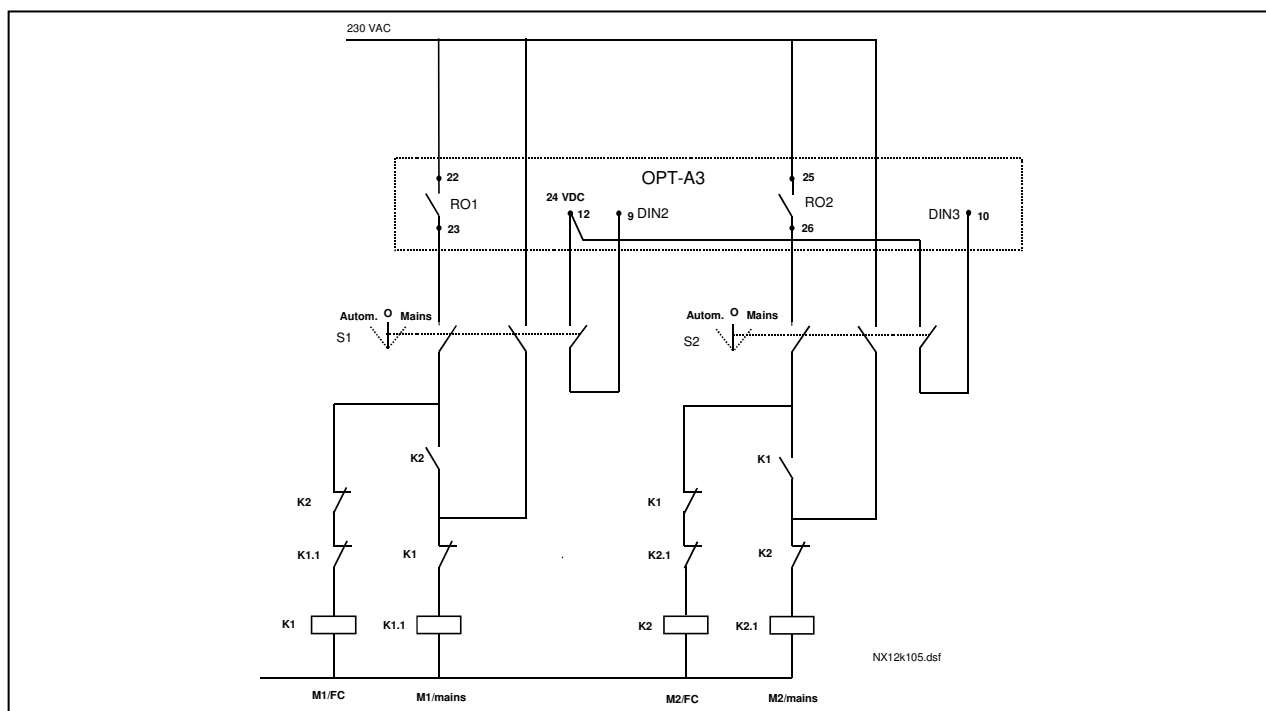
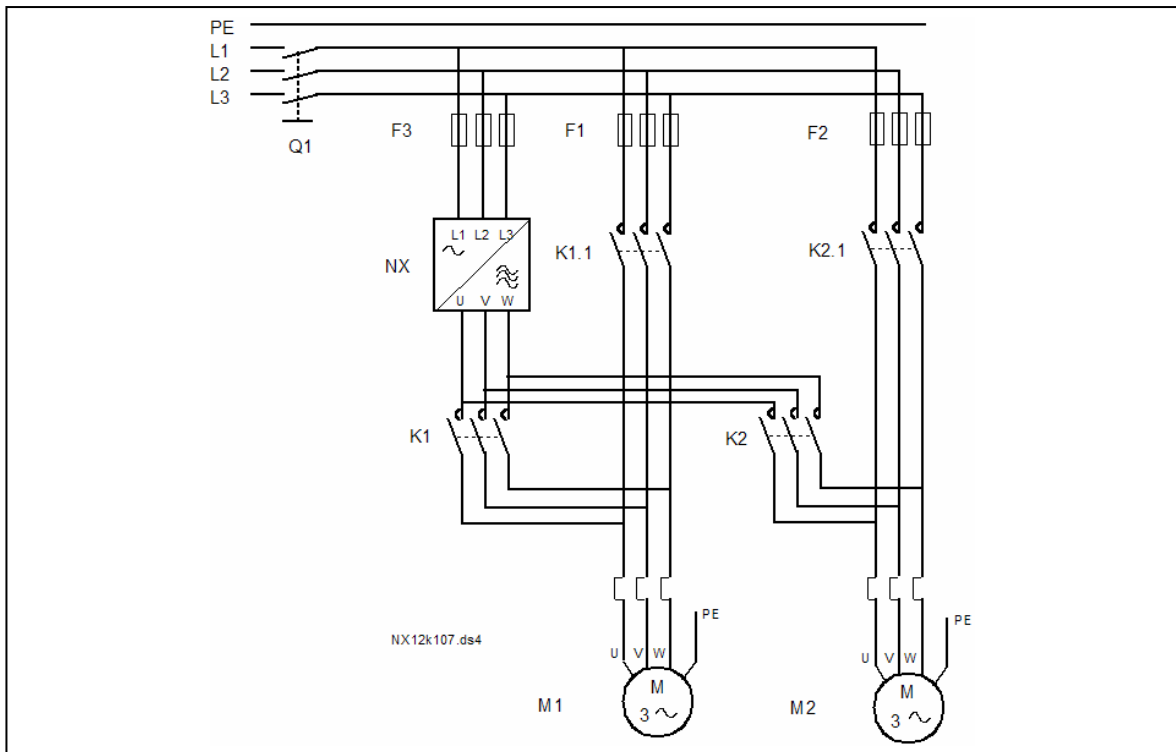

Figure 7-1. 2-pump autochange system, principal control diagram
Figure 7-5. Example of 2-pump autochange, main diagram
- External contactors controlled through the relay outputs of the frequency converter connect the drives to the frequency converter or to the mains. If the motor controlled by the frequency converter is included in the autochange sequence, it is always controlled through the relay output activated first. The other relays activated later control the auxiliary drives (see Figure 7-5 and Figure 7-6).
The automatic change of starting and stopping order is activated and applied to either the auxiliary drives only or the auxiliary drives **and** the drive controlled by the frequency converter. depending on the setting of parameter 2.9.25, *Automatics selection*. By default, the Autochange is activated for 2 drives. See Figure 7-1 and Figure 7-5.